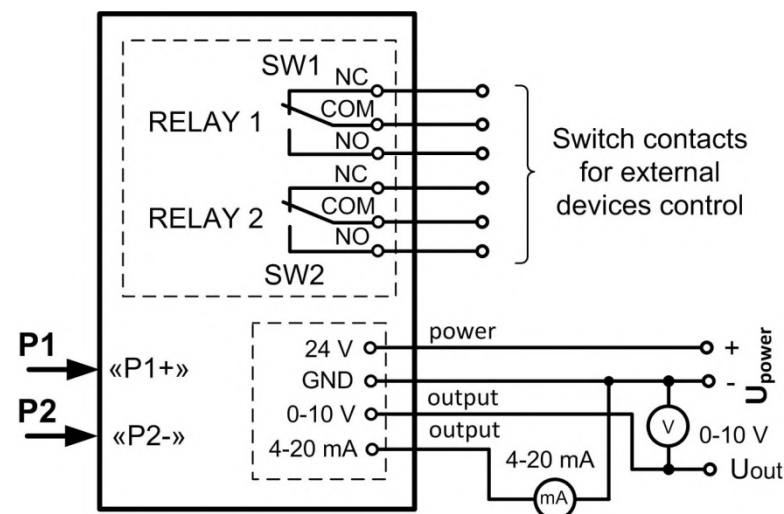

Figure 1 - Connection diagram; P1, P2 - inlet medium pressure, P1 (+) for higher pressure, P2 (-) for lower pressure.
4.2 See Figure 1 for circuits connection diagram (connected inside the housing via cable glands).